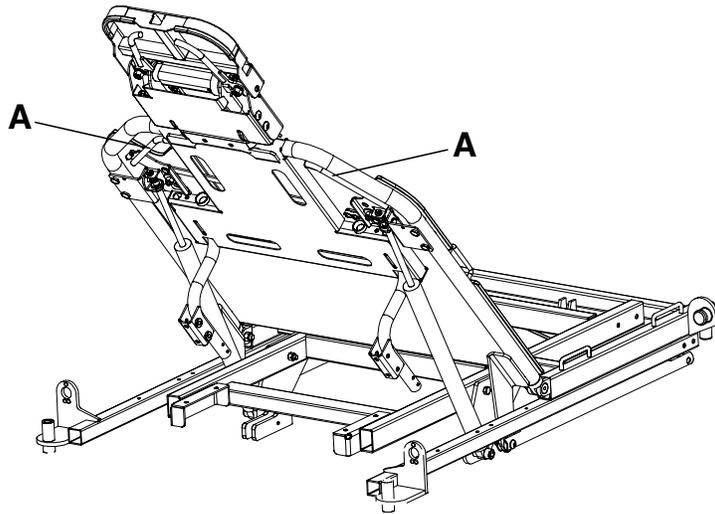

Figure 5 – Fowler backrest
To raise or lower the Fowler backrest, squeeze the red handle (A) toward the Fowler backrest frame. Lift up or push down on the Fowler backrest to move it to the desired position (between 0 and 90 degrees) (Figure 5).